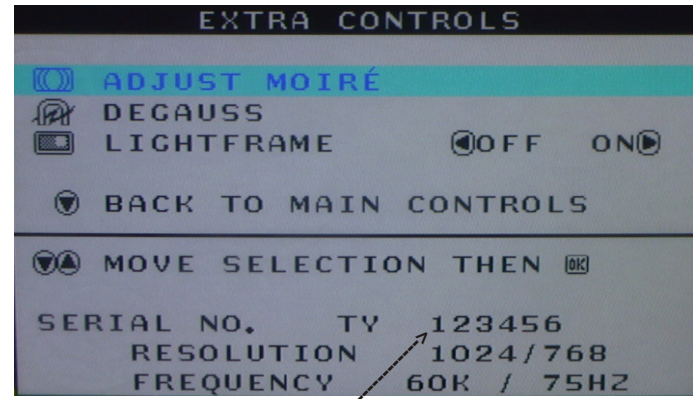

Fig. 18
- Confirm the Serial Number "123456" is updated as shown in Fig. 18.